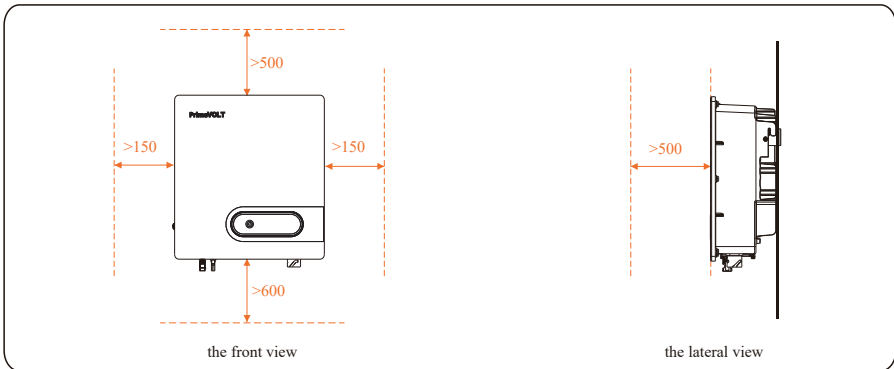

Figure 4.3 Installation Space Requirements (unit: mm)
- Reserve enough clearance around the inverter to ensure sufficient space for installation and heat dissipation, as shown in Figure 4.3.